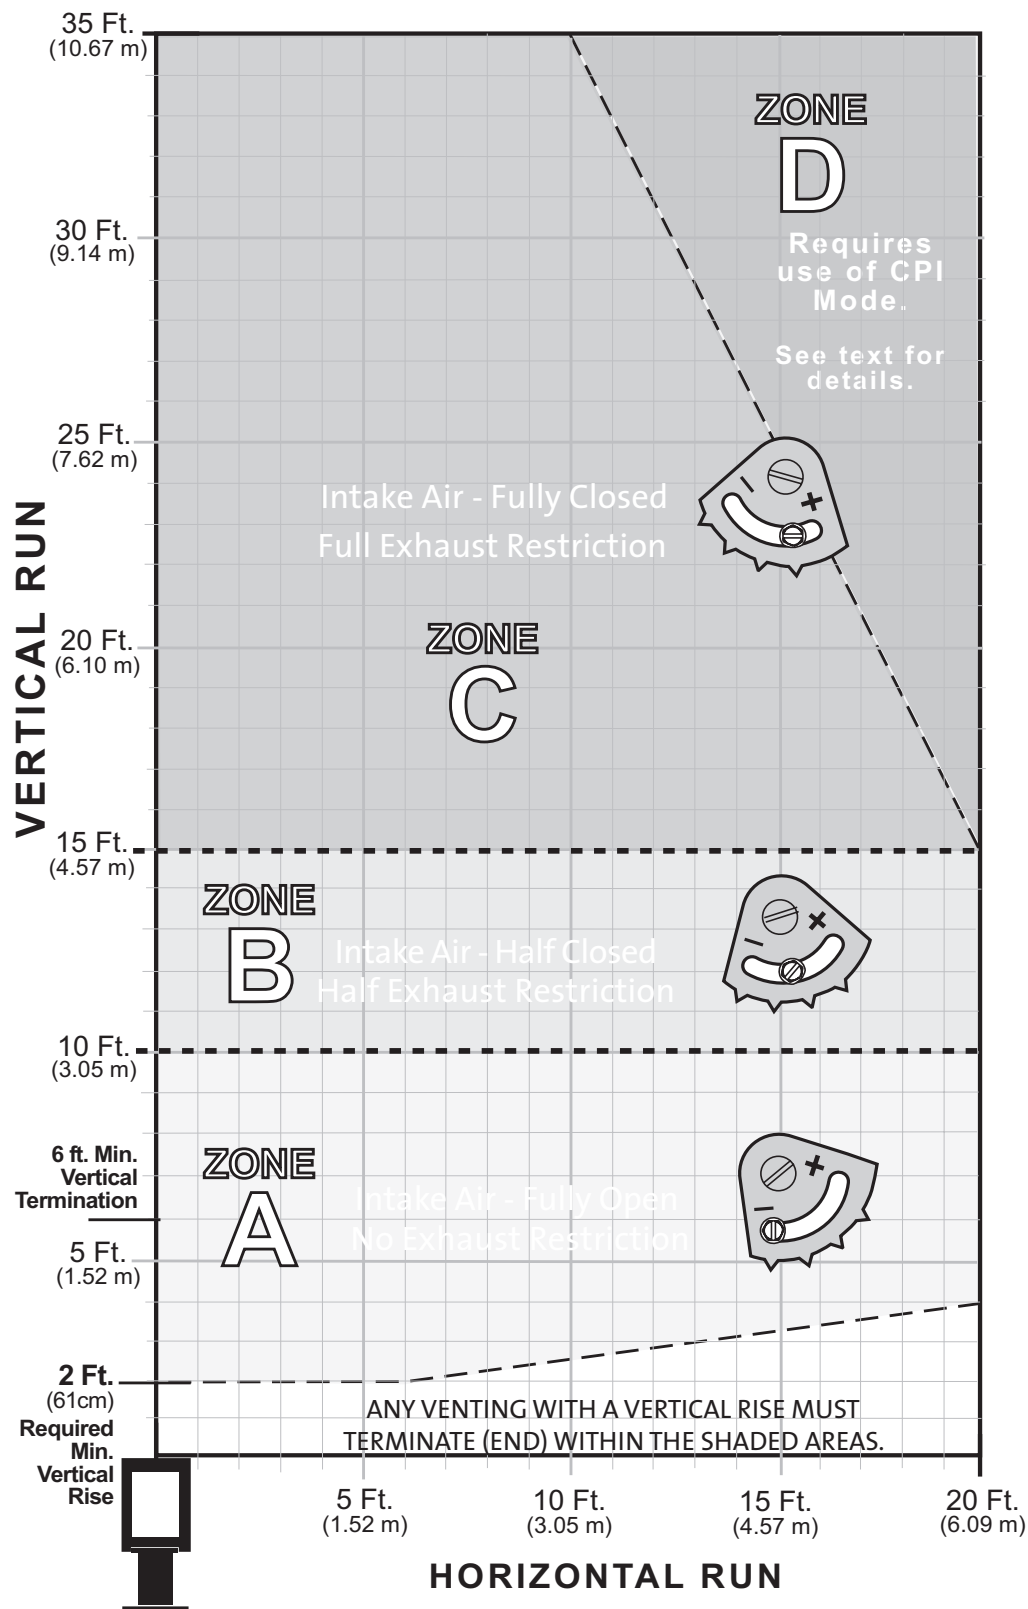

Figure 17. Vent Termination Diagram.
1. Use the restrictor zone guidelines in the Vent Window Diagram, fig. 17. In masonry chimney, a fireclay liner or listed steel liner, must be present the entire length of the chimney.
Use the Vent Termination Diagram, fig. 17, to determine which zone your vent termination falls within and make the appropriate exhaust and air intake setting adjustments. Use these settings as general guidelines to start from. The final settings will ultimately be determined by the individual characteristics of your particular installation. There are no hard and fast rules.
2. Loosen the locking screw and turn the restrictor pivot plate to the appropriate indicator point as specified in the vent window diagram, figure 17. After the burner has been operating for 15 minutes, make any further adjustment in 1/8" increments until the desired flame picture is achieved. **Do not exceed the fully closed setting as shown in fig. 15.** Operate the burner for 10-15 minutes between additional adjustments.